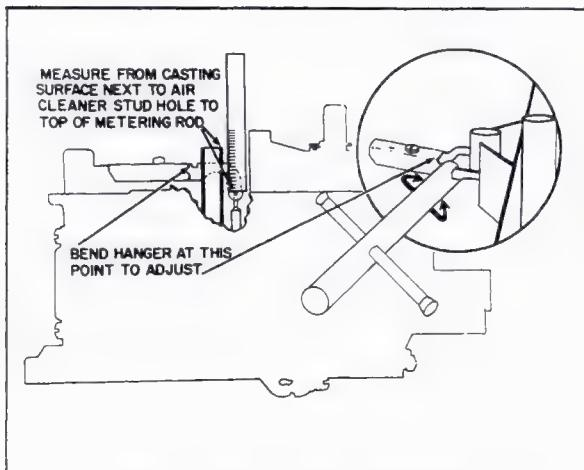

Fig. 6-85 Secondary Metering Rod Adjustment
88. Secondary Metering Rod Adjustment (Fig. 6-85)
- To check secondary metering rod adjustment, measure from top of metering rod to top of air horn casting next to air cleaner stud hole, as shown in Fig. 6-85. This dimension should be .840 or approximately 27/32 for all carburetors.
- If adjustment is necessary, bend metering rod hanger with pliers at point shown in Fig. 6-85. Make sure both rods are adjusted to same dimension.